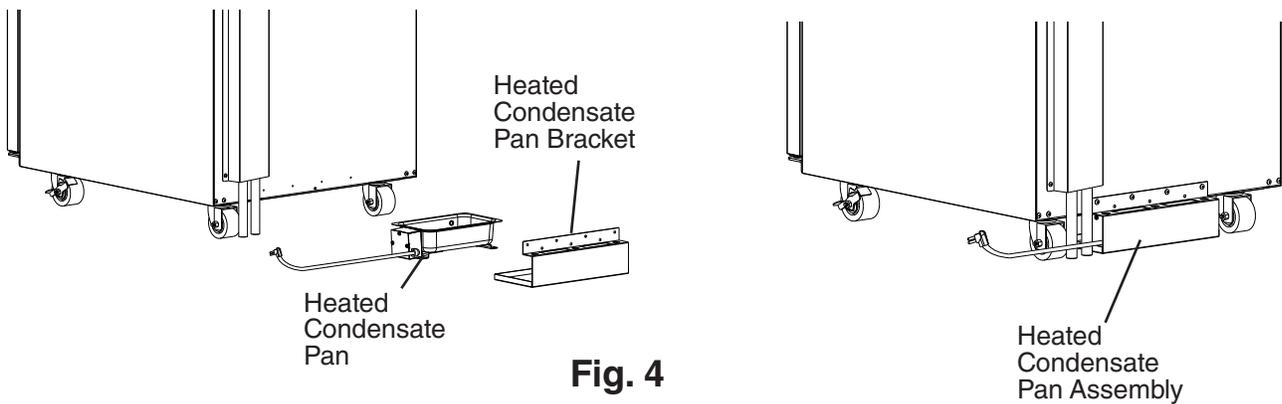

Fig. 4
- 2) Place the heated condensate pan in the heated condensate pan bracket, then using the 4 screws provided in the accessory bag, secure the heated condensate pan bracket to the rear of the appliance. See Fig. 4.